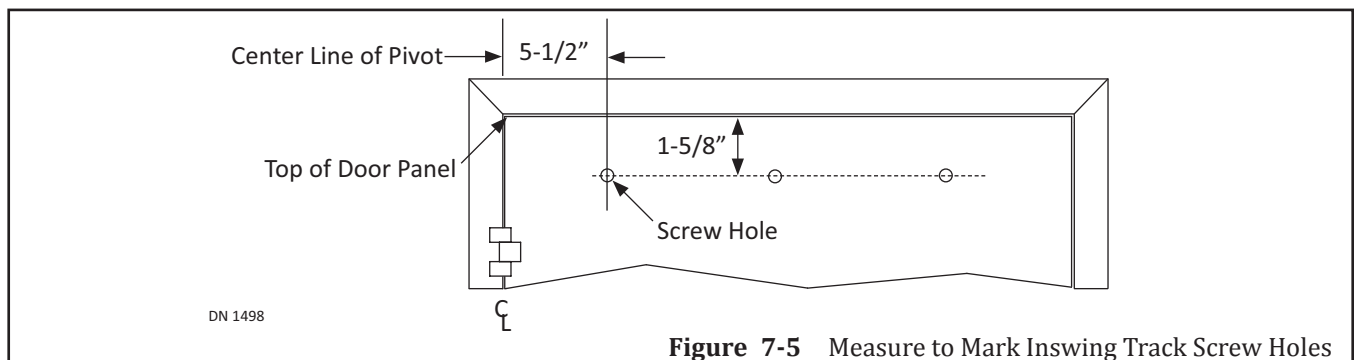

Figure 7-5 Measure to Mark Inswing Track Screw Holes
1. From the top of the Door, measure 1-5/8 inches down and mark a horizontal line across the face of Door Panel. Please see Figure 7-5.